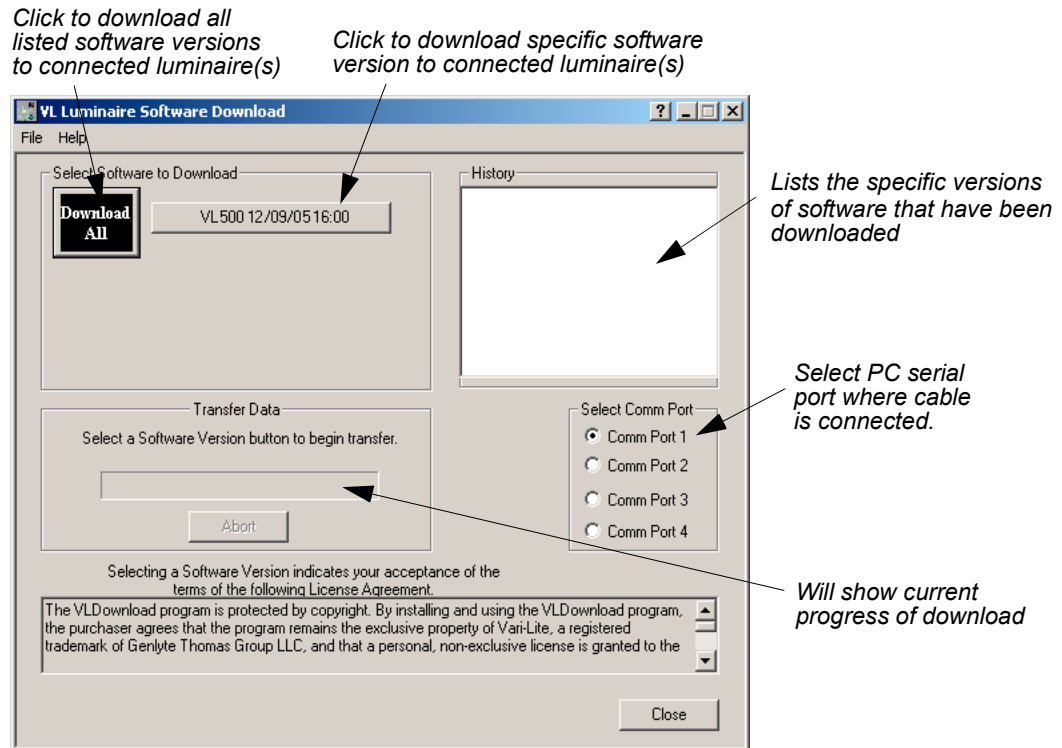

Figure 3-4: Download Interface Window
- Step 6. At **Select Comm Port** section of window (refer to Figure 3-4 on next page), select serial Comm Port (Comm Port 1, Comm Port 2, Comm Port 3, or Comm Port 4) where *Serial Straight Thru Cable* is connected.